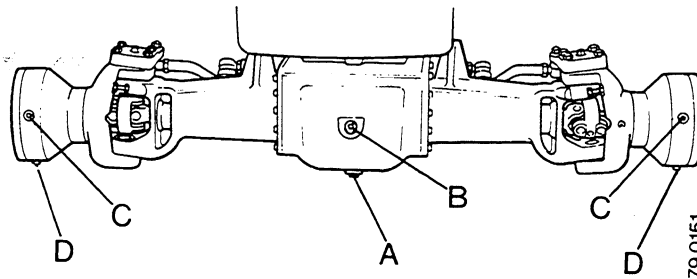

FIGURE 5. FRONT AXLE 4WD: LEVEL AND DRAIN PLUGS
1. Put a container of at least 9 litre (2 gal) capacity under the drain plug A. Figure 5.
2. Rotate wheel until one of the plugs in the hub housing is at the lowest position. See D, Figure 5.
Add oil if necessary, to the level of the plug holes at B and C, Figure 5.
1. Check the level of the oil in the differential and both hubs. Add oil if necessary to the level of the plug holes at B and C, Figure 5.